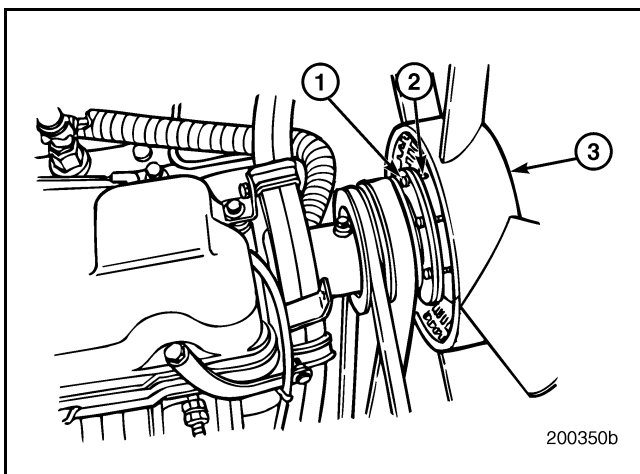
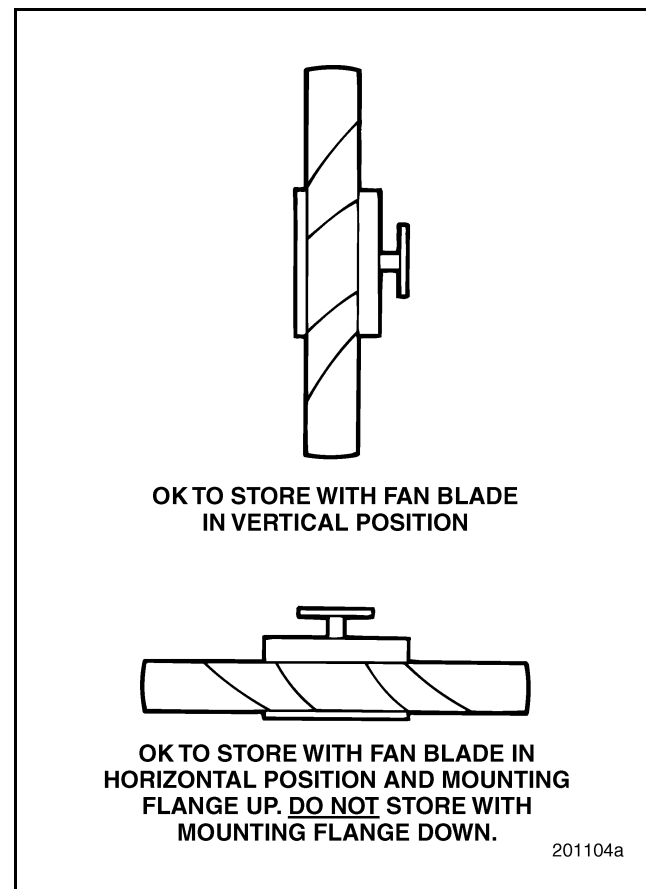

Figure 75 — Fan Assembly Removal
Figure 76 — Viscous Fan Drive Assembly Storage
- a. Loosen the eight fan assembly mounting nuts (2) and capscrews (1). Refer to Figure 75.
- b. While supporting the fan assembly (3), remove the nuts (2) from the capscrews (1) and remove the fan assembly.
- c. If the fan assembly is equipped with a viscous drive, be sure to store the assembly either horizontally, with the fan face down (hub flange up), or vertically, as shown in Figure 76. This will prevent fluid leaking from the assembly.